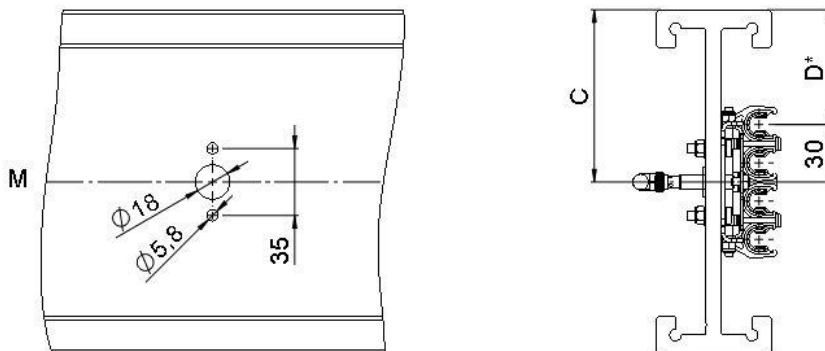
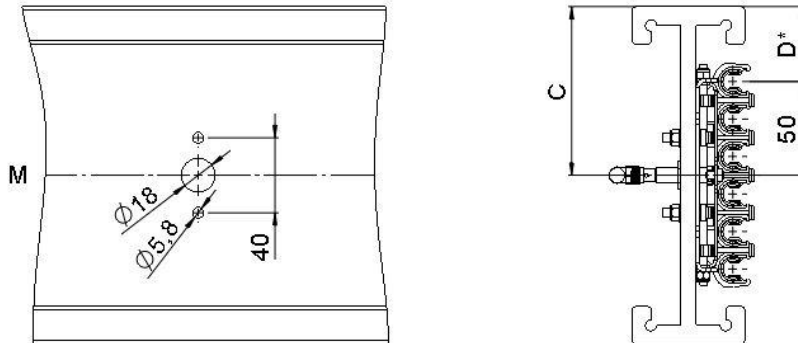

Fig. 5: Example: Bore hole pattern sliding contact sensor unit (4-poles)
Fig. 6: Example: Bore hole pattern sliding contact sensor unit (6-poles)
The dimensions of the **hole for the sensor and the fixing holes** are listed in chapter 6.3.1 in Fig. 5. It is recommended to create a drawing in advance, which can be provided for example in the context of a **project documentation**.
The position of the holes depends on the center of all conductor rails (example: with 6 poles, the conductor rail center M lies between the 3rd and 4th pole see Fig. 6). In this example, the 6 poles were placed in the center of the EMS-profile.
- Drill holes for fixing screws ($\varnothing$ 5.8 mm) and holes for tube ($\varnothing$ 18 mm) into the EMS-profile (see Fig. 5 and Fig. 6). The drilling distance depends on the number of poles (4-pole or 6-pole). The center of the conductor rail M is an individual system dimension.